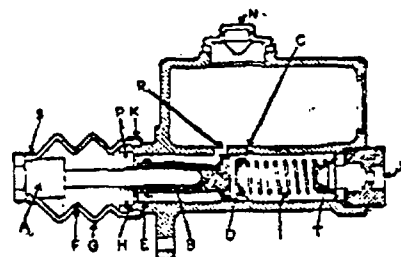

Fig. 1
- N—(Fig. 1) Vent Cap
- P—(Fig. 1) Spring Stop